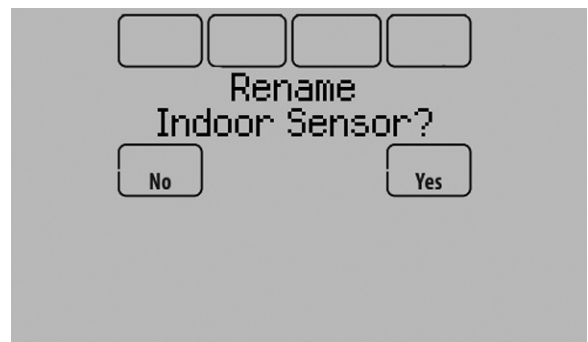

Fig. 53.
3. If you are installing more than 1 wireless indoor sensor, give each sensor a name as you install it. Press Yes when the "Rename Indoor Sensor?" screen is displayed, as shown in Fig. 53.